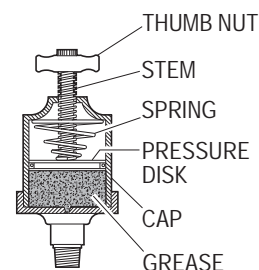

Figure 3
B. Check automatic pressure lubricator at pump. If the stem is fully extended, with thumb nut all the way up, then automatic pressure lubricator contains lubricant. If not, lubricant must be replaced by the following procedure (See Figure 3):